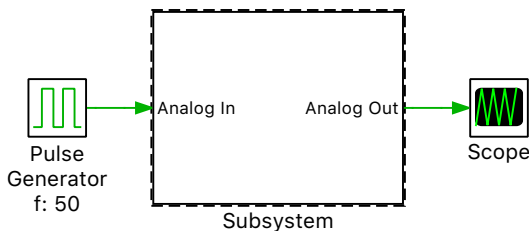

Figure 10: Subsystem in CodeGen mode with a dashed bold border
- 5 Right-click the Subsystem and select the **Subsystem + Simulation mode + CodeGen** option. Once you select the CodeGen mode the subsystem border will change to a dashed bold line as shown in Figure 10. When in CodeGen mode, PLECS uses the discretized C code representing that subsystem. Scopes within the discretized subsystem will not update, but Scopes external to the subsystem will.